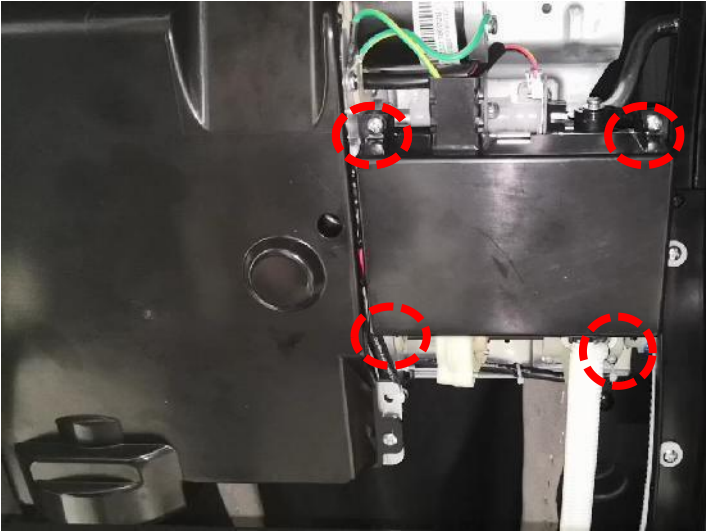

Figure 1
1. Remove the four screws of the manipulator driving box cover (Figure 1)